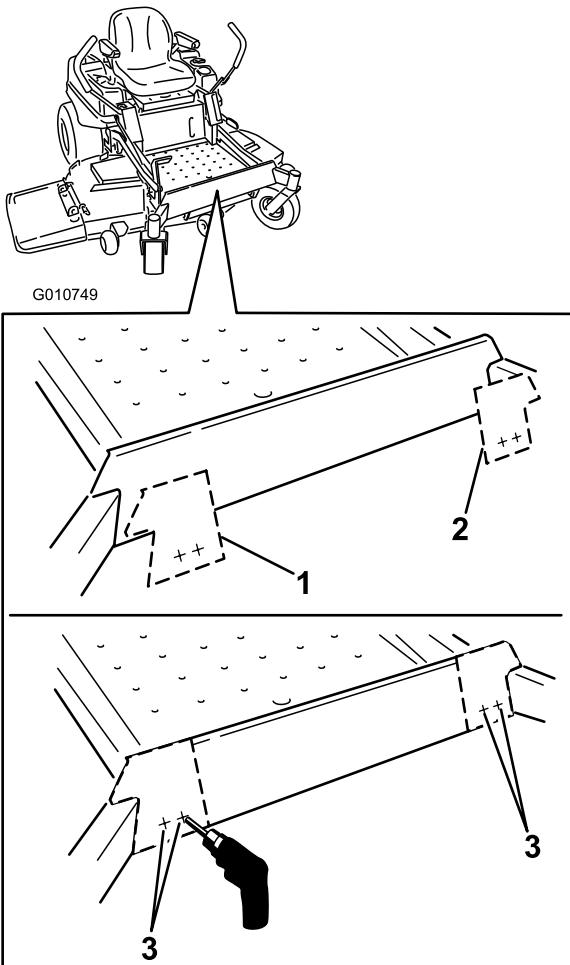

Figure 1
- C. Place the templates over the foot rest as shown in Figure 1.